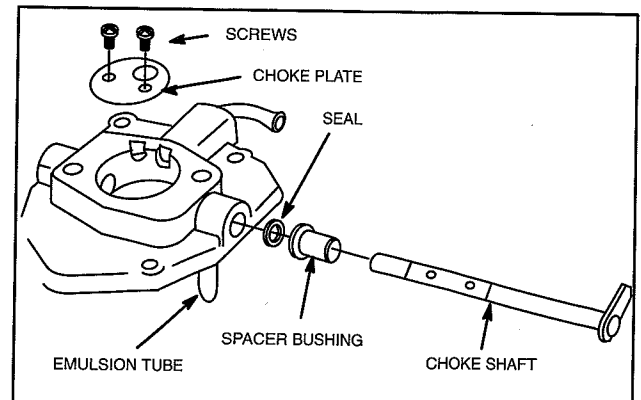

Fig. 84 – Remove Choke Shaft
9. Remove choke shaft and spacer, Fig. 84.